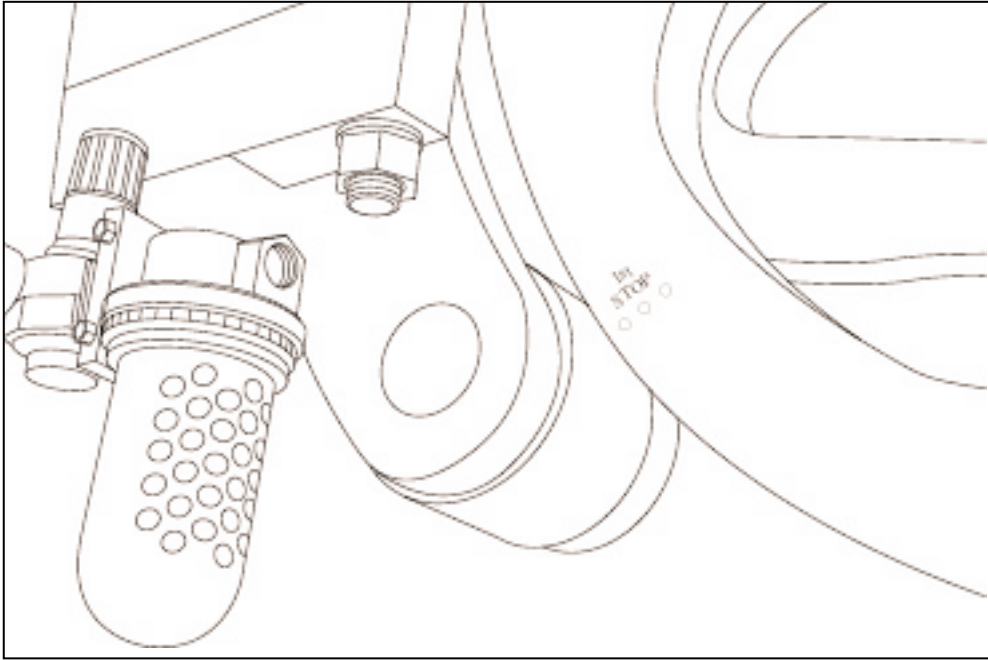
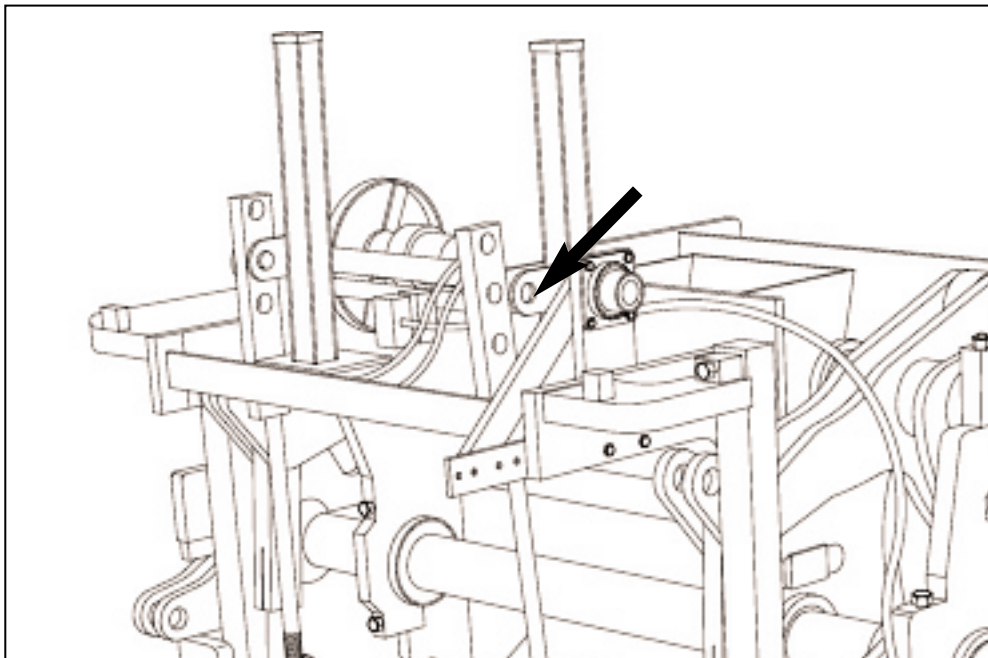

Figure 4.19 "FIRST STOP". (R.H. side of machine)
Figure 4.20 DISCONNECTING THE AUTOFEED LINKAGES.
4.2.2 Run machine to "first stop" (see figure 4.19.) Turn off clutch and drive motor, and manually lower the auto-feed to its lowest position. Disconnect the two auto-feed linkages at the top (see figure 4.20).